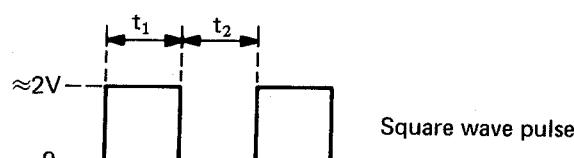

Fig. 9.4. Square wave
4. Check that t_1 is approx. $= t_2$. Refer to fig. 9.4.